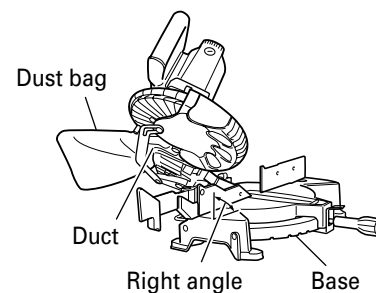

Fig. 32
- (1) When the dust bag has become full of sawdust, dust will be blown out of the dust bag when the saw blade rotates. Check the dust bag periodically and empty it before it becomes full.
- (2) During bevel and compound cutting, attach the dust bag at a right angle to the base surface as shown in Fig. 32.